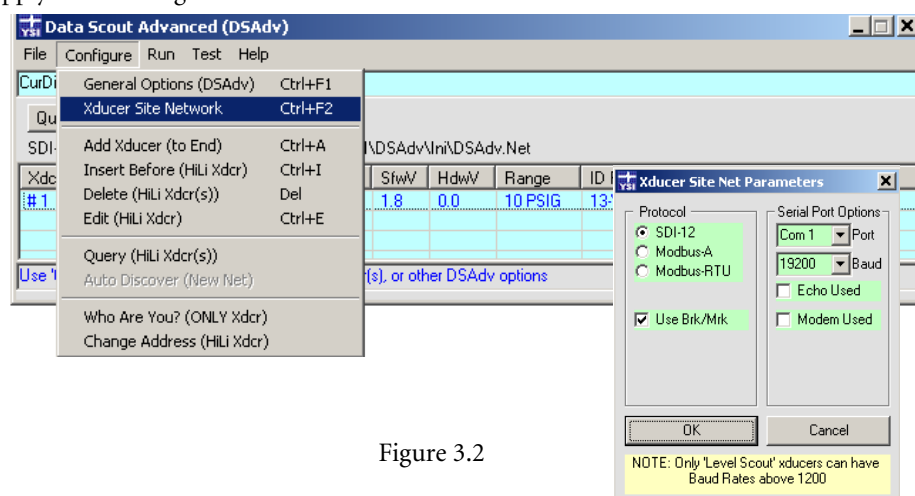

Figure 3.2
- Click **Configure**, and then **Xducer Site Network** from the drop-down menu. This will open the **Xducer Site Net Parameters** dialog form (figure 3.2).